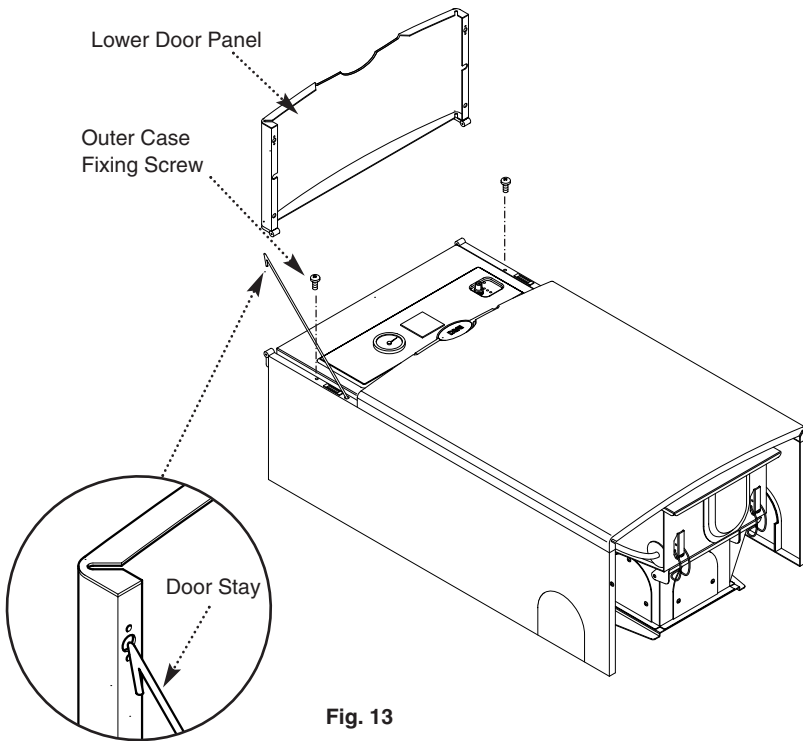

Fig. 13
1. Open the hinged lower door panel and carefully disengage the door stay. Remove the door by opening it 90° and pulling forward (Fig. 13).
2. Remove the 2 screws holding the outer case to the combustion box (Fig. 13).